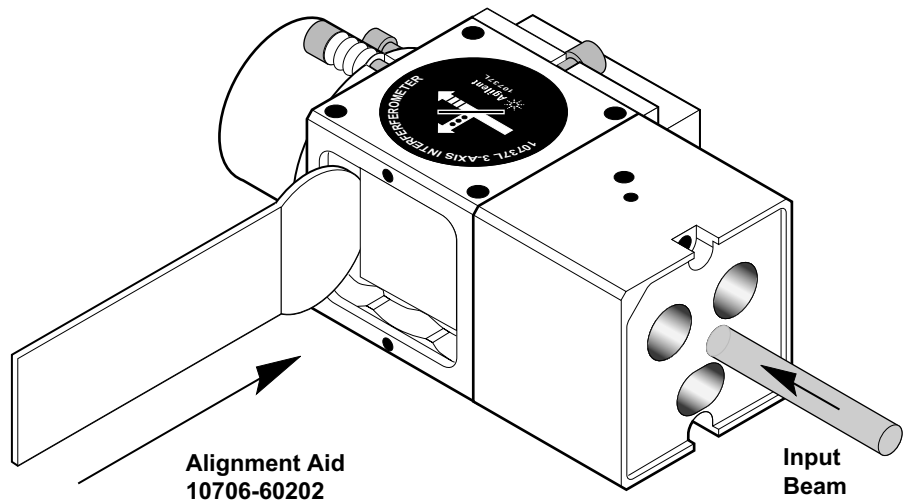

Figure 7O-10. Agilent 10737L Compact Three-Axis Interferometer with 10706-60202 Alignment Aid
- 1 Remove the receiver assembly and the plane mirror converter (see figures 7O-1 and 7O-4), and set aside on a clean surface. Do not touch any glass surface of any optic.
- 2 Install the reference mirror assembly (see figures 7O-1 and 7O-4).
- 3 Place the 10706-60202 alignment aid between the beam splitting cube and the reference mirror (see Figure 7O-10).